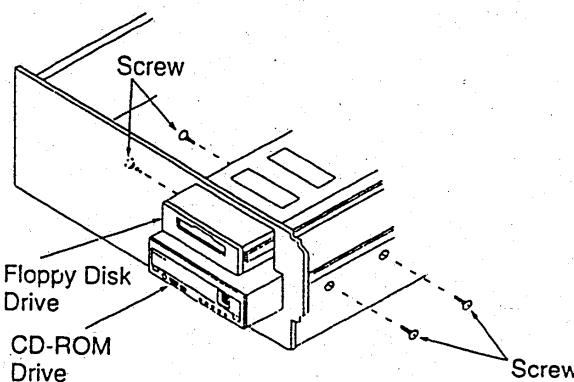

Fig.2
- C. Look above your vacant disk drive bay. If it is occupied by a floppy disk drive, slide the floppy disk drive forward a couple of inches. Do not disconnect its cables. This will allow for easier CD-ROM drive installation. (Fig. 2)